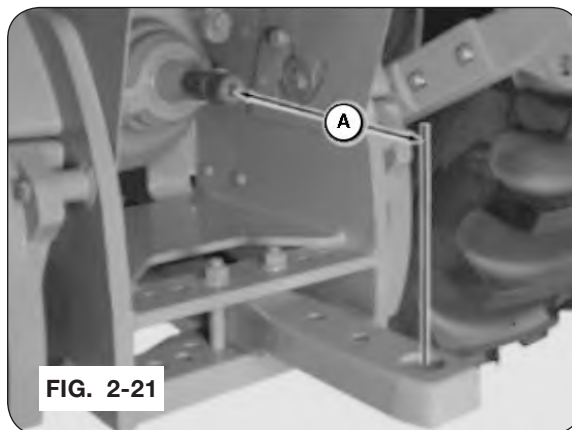

FIG. 2-21
- *Prior to hitching grain cart to tractor drawbar, drawbar MUST be set at 20" from end of PTO shaft to center of hitch pin. Dimension (A) in picture. Failure to do so will result in driveline damage. (FIG. 2-21)*